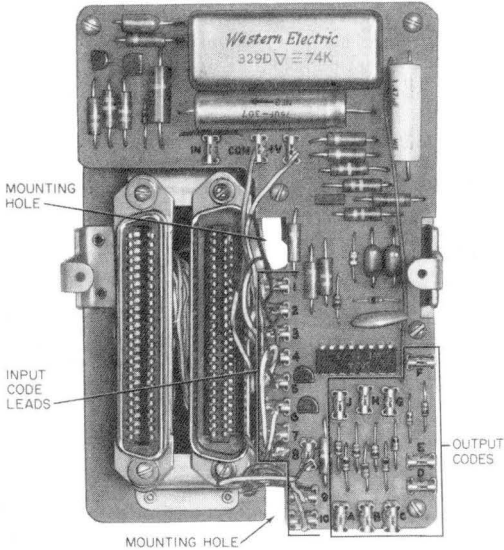

Fig. 19—26A Apparatus Unit Base
- (b) Connect the 26A apparatus unit (Fig. 19) as follows:
- Remove the lead corresponding to the input code from the numbered terminal (Fig. 19)
- Remove the leads corresponding to the output codes and insert each lead in a separate terminal lettered A through J (Fig. 19 and 31).